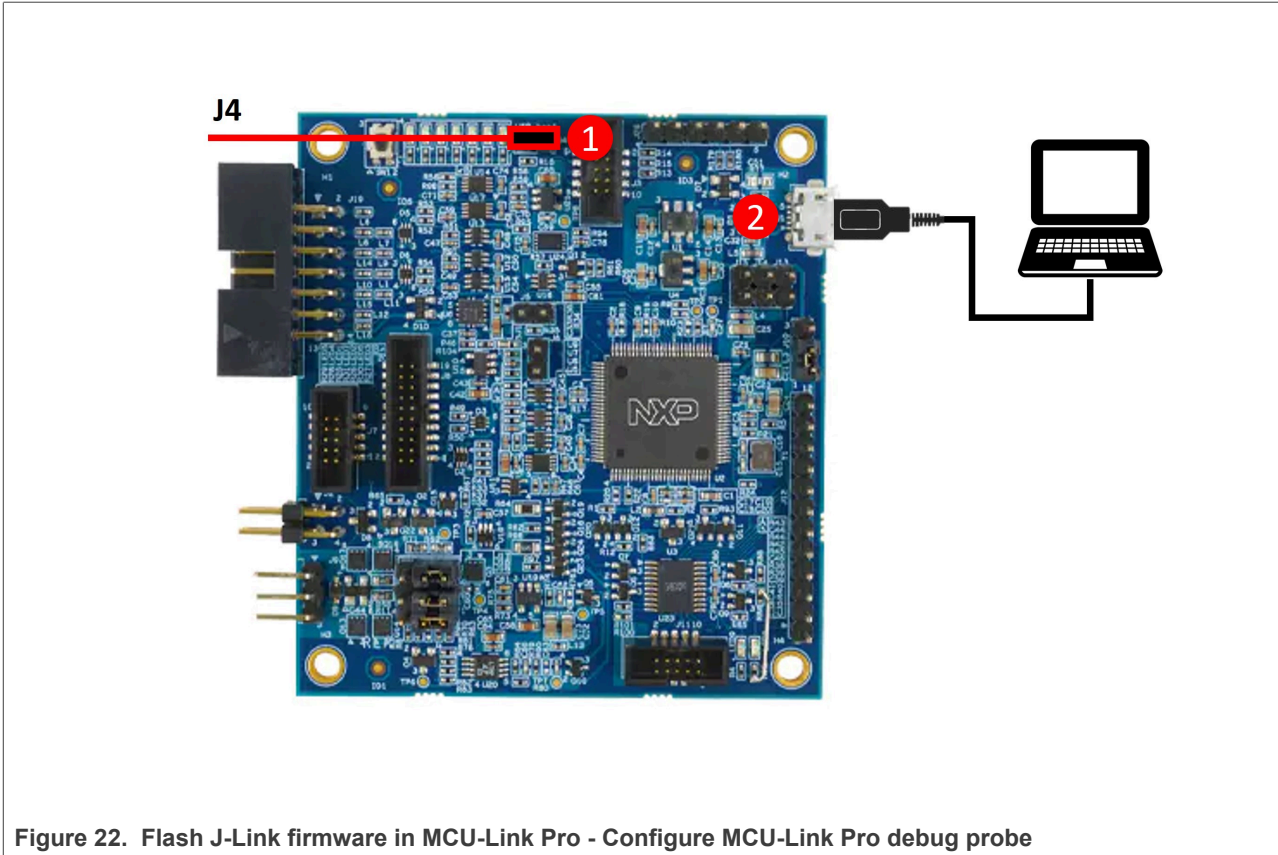

Figure 22. Flash J-Link firmware in MCU-Link Pro - Configure MCU-Link Pro debug probe
- Follow the next steps to configure the jumpers of the MCU-Link Pro debug probe for flashing the J-Link firmware. See Figure 22: